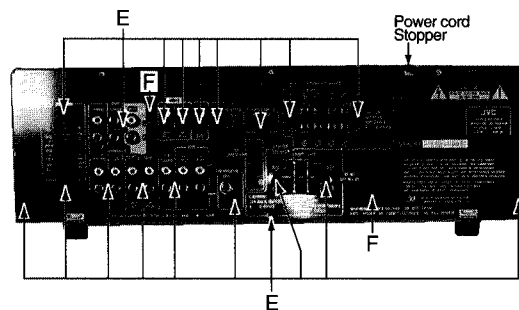

Fig.4
2. Remove 19 screws E and 2 screws F (Fig.4)